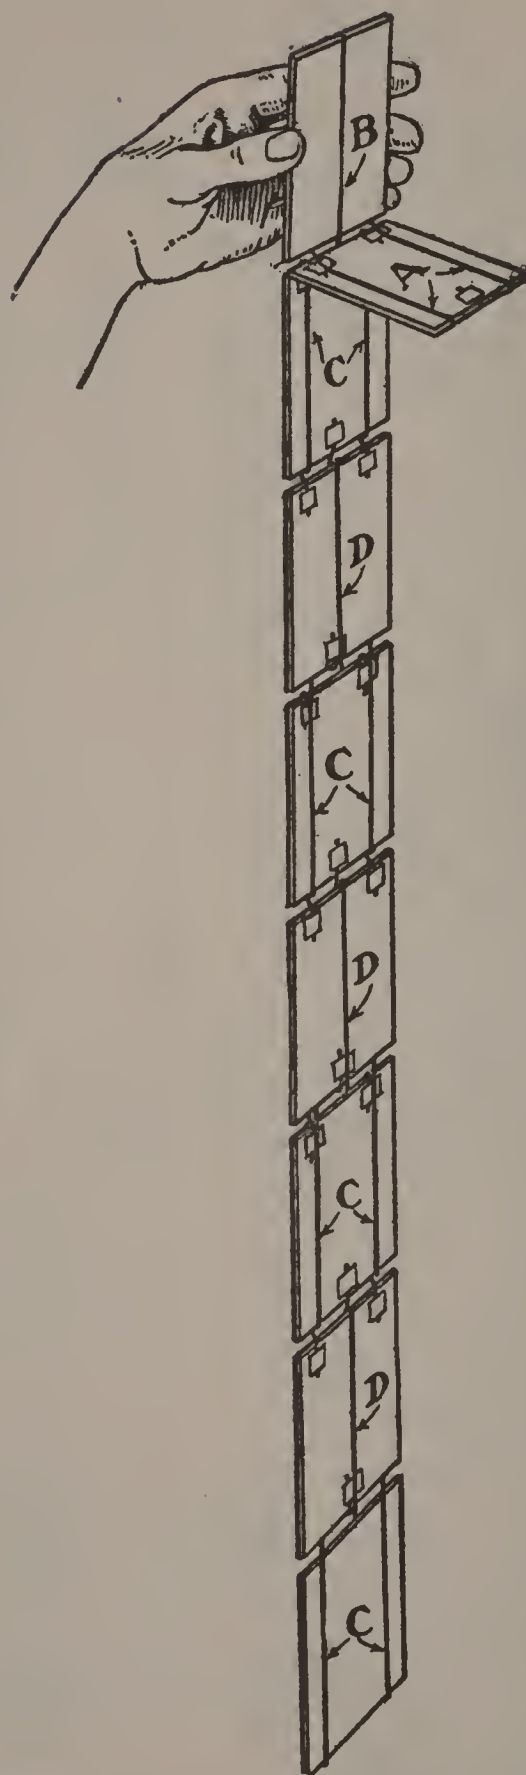
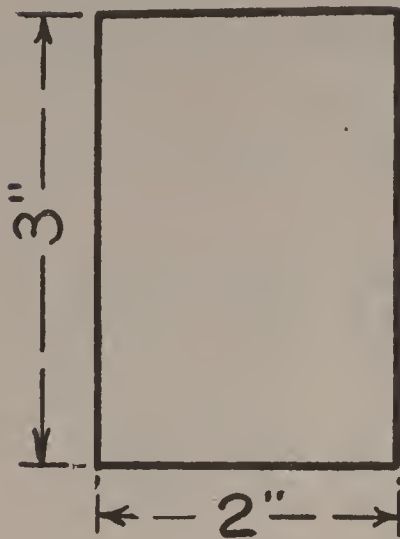

FIG. 54. THE TOPSY TURVY BLOCKS
Fig. 55
The Topsy Turvy Blocks shown in Figure 54 de-
The String of Blocks can be made as long as you wish. Eight or nine is a good number. They may be cut out of thin wood but the set shown in Figure 54 is of cardboard, which is easier and quicker to cut. Figure 55 shows a good size to make them.
- FIG. 55. PATTERN FOR BLOCKS
To Start the Blocks Tumbling, hold an end block with one hand and turn it over endwise. Doing this will cause the second block to turn over as shown in Figure 54. The tumbling second block will cause the third block to turn over, and so on down to the end of the string.